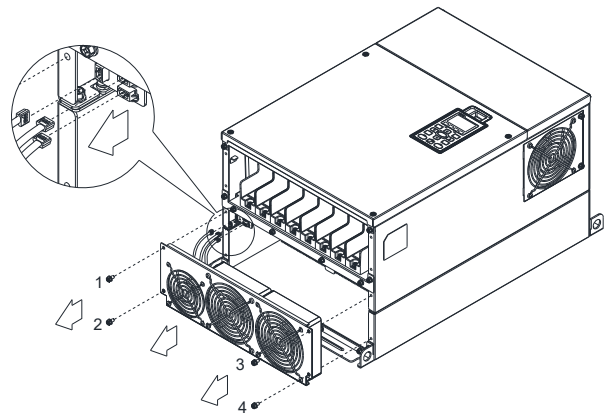

Figure 2
1. Loosen screw 1-4 (figure 2) and disconnect fan power and pull out the fan. (As shown in the enlarged picture 2) Screw1-4 Torque: 24-26 kg-cm / [20.8-22.6 lb-in.] / [2.4-2.5 Nm]